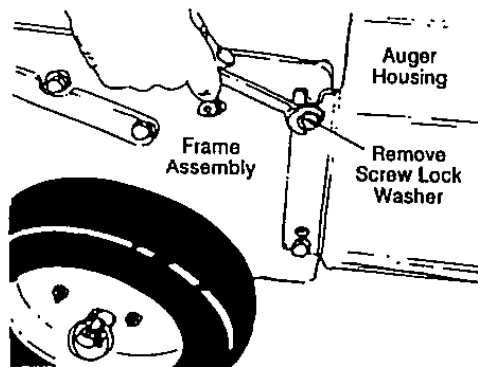

FIGURE 16
- Remove the top screws and lockwashers which attach the auger housing assembly to the frame assembly. A 9/16" wrench is required. See figure 16.